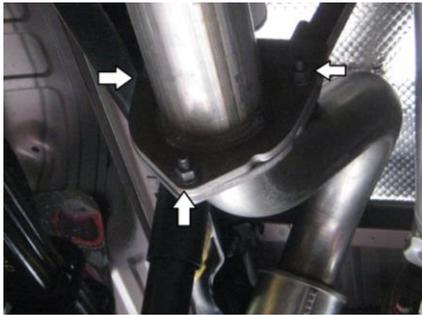

Figure 1
2. Loosen the three (3) nuts securing the extension pipe flange to the tail pipe. **Refer to Figure 1.**
4. Loosen the three (3) nuts securing the extension pipe to the flange directly behind the exhaust filter and remove the extension pipe.